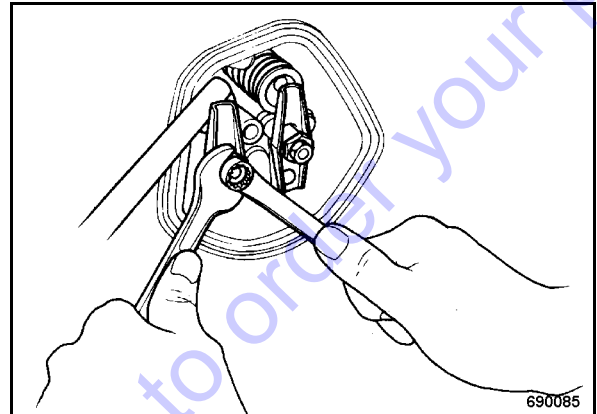

Fig. 60
- Check the valve clearance with a feeler gauge on both valves (Fig. 60).